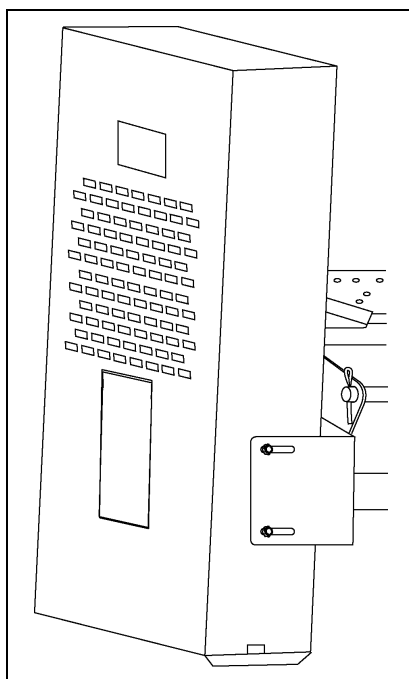

Figure 1F Auger Belt Drive
1. Belt drive and pulley guard. (See Figure 1F.)